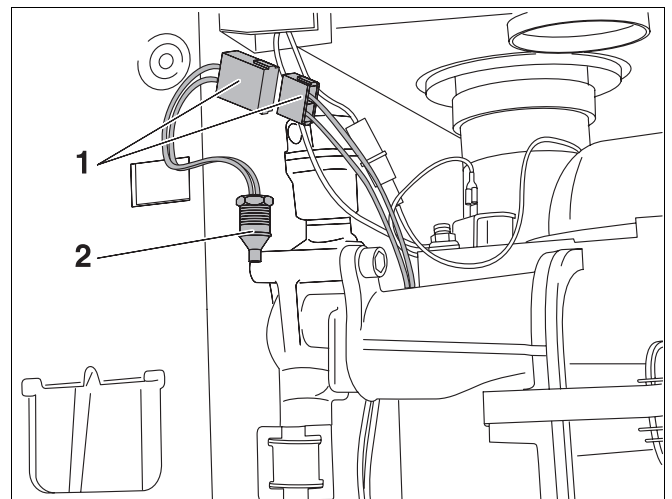

Fig. 49 Buderus 600 - 11R / 19R / 24R: replacing the safety sensor
- Loosen the plug-in connection (fig. 49, item 1).
- Unscrew the sensor (fig. 49, item 2) and replace with a new unit.